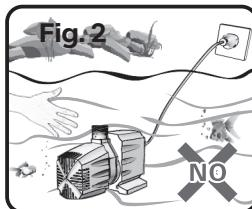

Fig. 2
- Always disconnect the power supply before doing any maintenance or placing your hands into the water to which this pump is immersed. (Fig. 2)